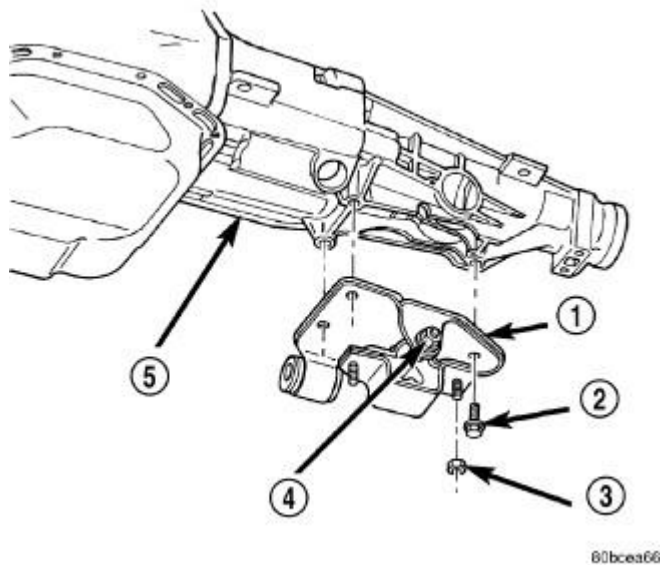
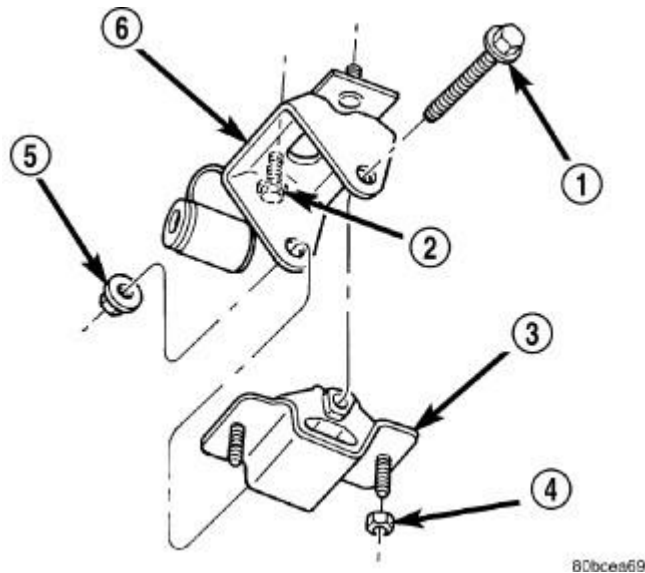

Fig. 173: Engine Rear Mount-4X2 Automatic Transmission
Fig. 174: Engine Rear Mount-4X2 and 4X4 Manual Transmission
- Remove the nut from the insulator mount through bolt (Manual transmission and 4x2 automatic transmission only). See **Fig. 173** or **Fig. 174**.
- Raise the transmission enough to remove the through bolt (Manual transmission and 4x2 automatic transmission only). See **Fig. 173** or **Fig. 174**.
7. Remove the two nuts retaining the isolator to the crossmember (Manual transmission and 4x2 automatic transmission only). See **Fig. 173** or **Fig. 174** .